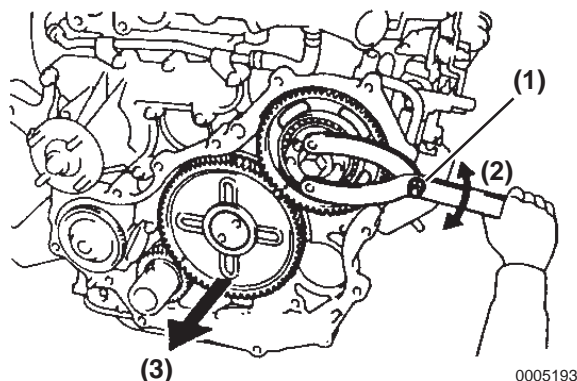

Figure 5-193
15. Using a suitable tool (**Figure 5-193, (1)**), turn the fuel injection pump drive gear (**Figure 5-193, (2)**) in both directions to loosen and remove the idler gear (**Figure 5-193, (3)**).